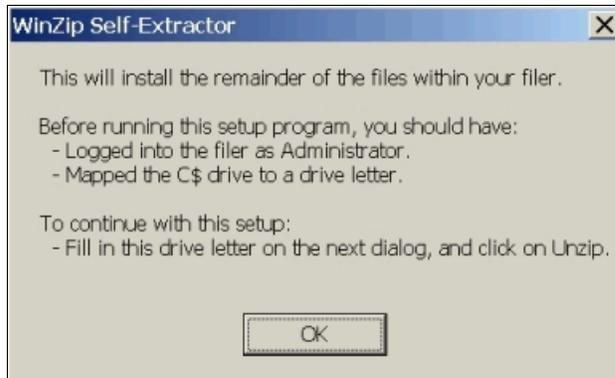

Figure A-10 Winzip self-extractor
- b. Double-click the files that you downloaded. A dialog box appears. See Figure A-10.